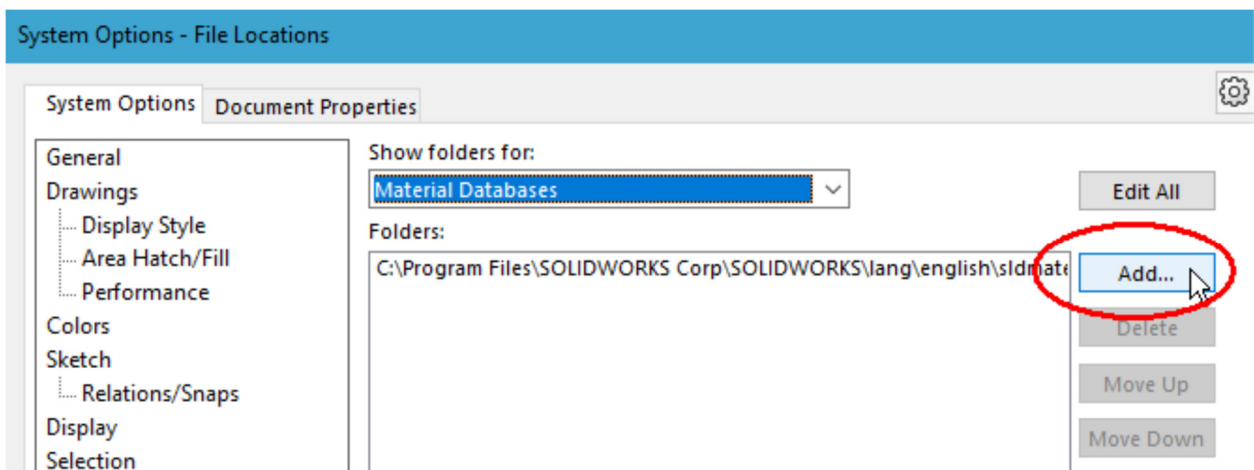

Figure 4.
- e) Click the “Add” button (Figure 4) and navigate to the folder where your materials.xml files will be saved, the directory you created in Step 1.